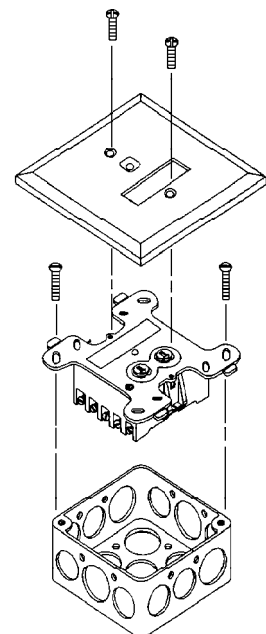

FIGURE 2.
M500ME, M500CHE, and M500XE modules mount directly to 4 inch square electrical boxes as shown in Figure 2. The box must have a minimum depth of 2-1/8 inches.
3. Secure the module to the electrical box (supplied by installer), as shown in Figure 2.